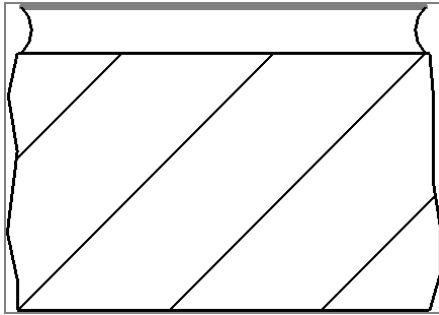

FIGURE 12.35: Draw the textured face while you're in the Edit mode for the filled region. Draw the arcs for the mortar joint using lines.
12. Draw the jagged lines on both sides, as shown in Figure 12.35.
17. Draw an arc on both sides of the brick (see Figure 12.35).